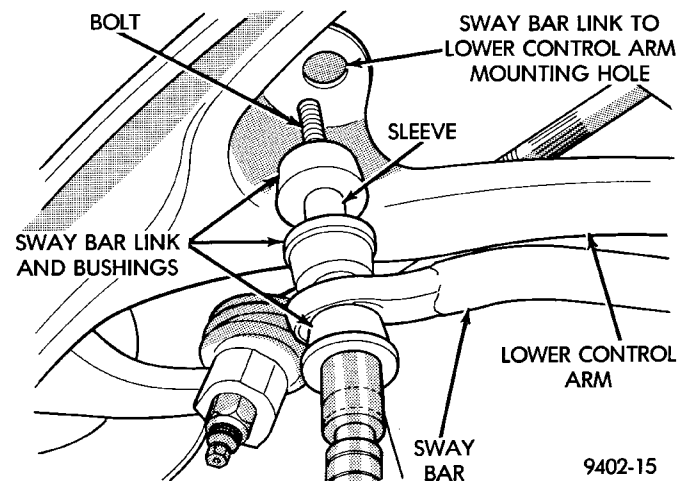

Fig. 37 Assembled Stabilizer Bar Link And Bushings
(4) Assemble stabilizer bar to lower control arm link assemblies and bushings as shown in (Fig. 37).